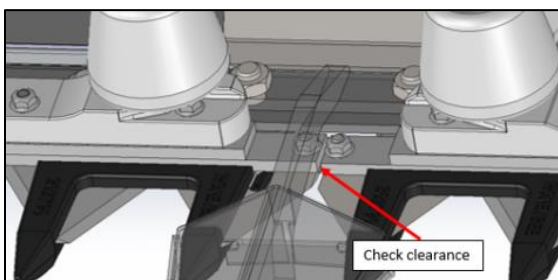

Figure 132
16. Ensure when the RH and LH knives come closest together that there is approximately 3/32" of clearance between the ends of the knives. If the clearance is less than this or more than 3/16" please recheck timing of pitman arms. Either one of these conditions tells us the timing of the pitman arms to the tie rod ends could be incorrect. Figure 132